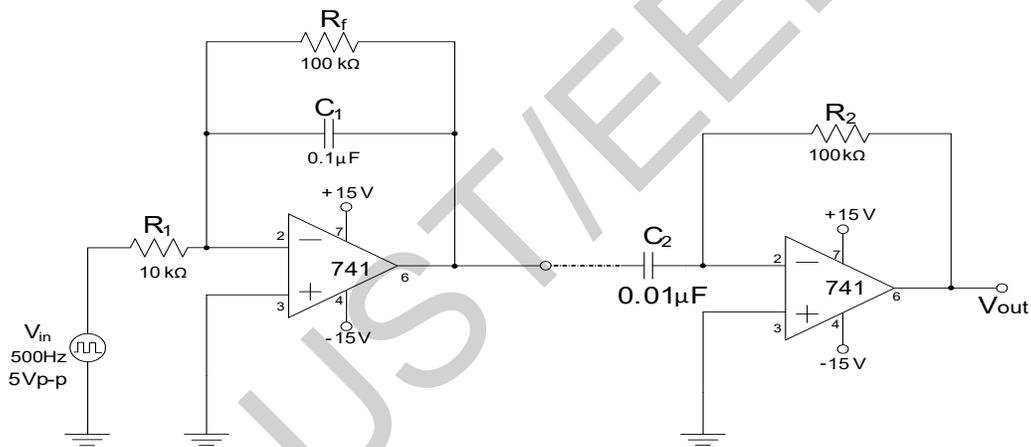

Fig 6.2
In this experiment, a square wave is at first integrated to produce a triangular wave of same frequency. This is then differentiated to reproduce the square wave (fig.6.2).
- 1) Make the connections as shown in figure 6.2.